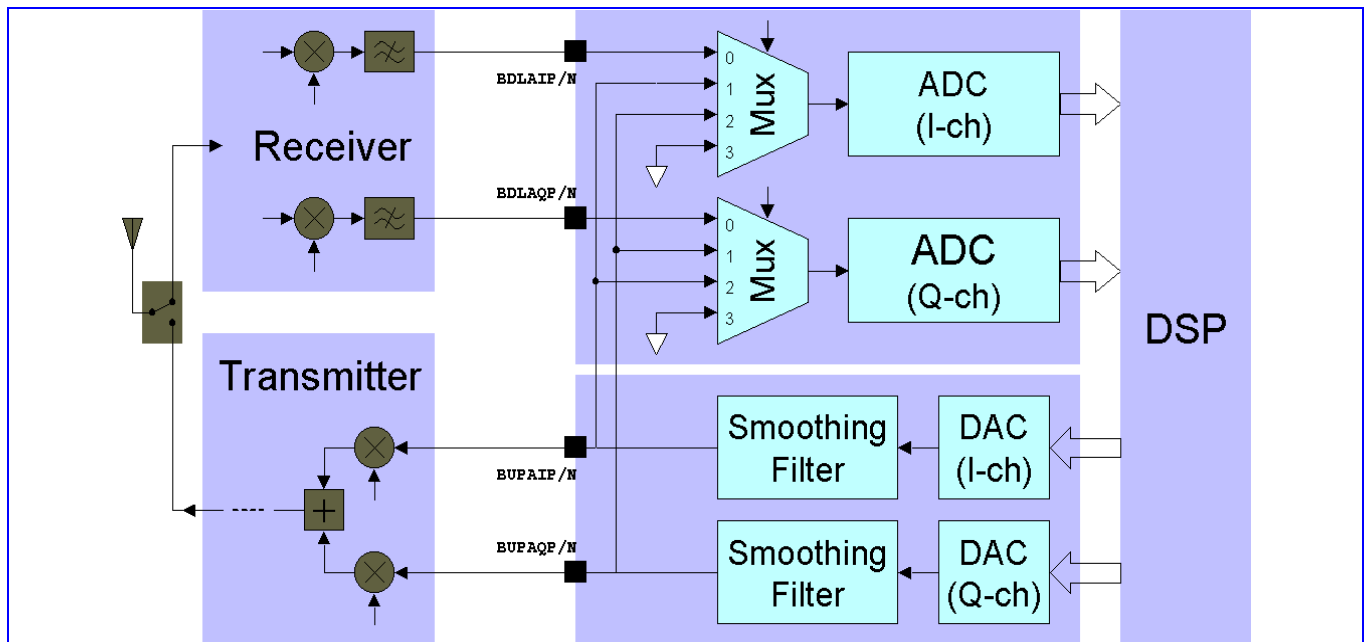

Figure 106 Base-band A/D and D/A Offset and Gain Calibration
The base-band downlink receiver (RX), together with the base-band uplink transmitter (TX) introduced in the next section, provides necessary analog hardware for DSP algorithm to correct the mismatch and offset error. The connection for measurement of both RX/TX mismatch and gain error is shown in **Figure 106**, and the corresponding calibration procedure is described below.